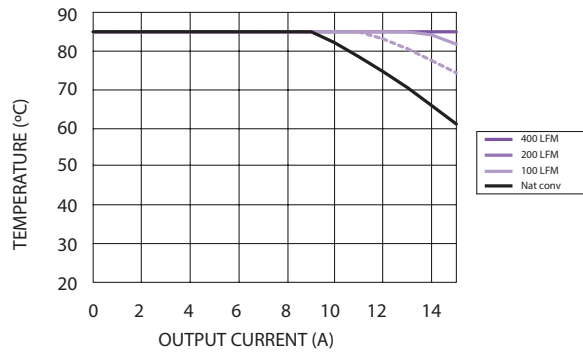

Figure 1 - Safe Operating Area
2. See Figures 1 and 2 for safe operating curves.